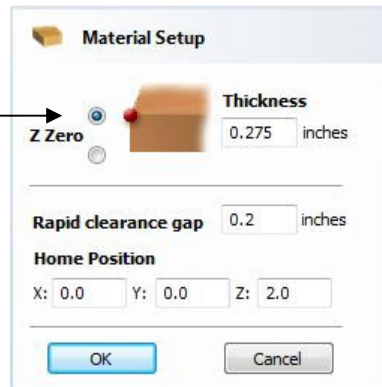

Figure 7. Material Setup
4. Select the **Material Setup** icon  from the **Toolpath Operations** list on the Toolpaths tab and specify the Rapid Clearance Gap to be **0.2"** and Home position to be **X0, Y0, Z2"** as shown below in Figure 7. (or a home position to suit your machine) Click **OK** to confirm.